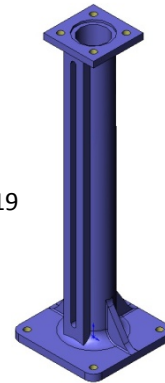

fig. 19
- Straight floor stands (fig. 19)